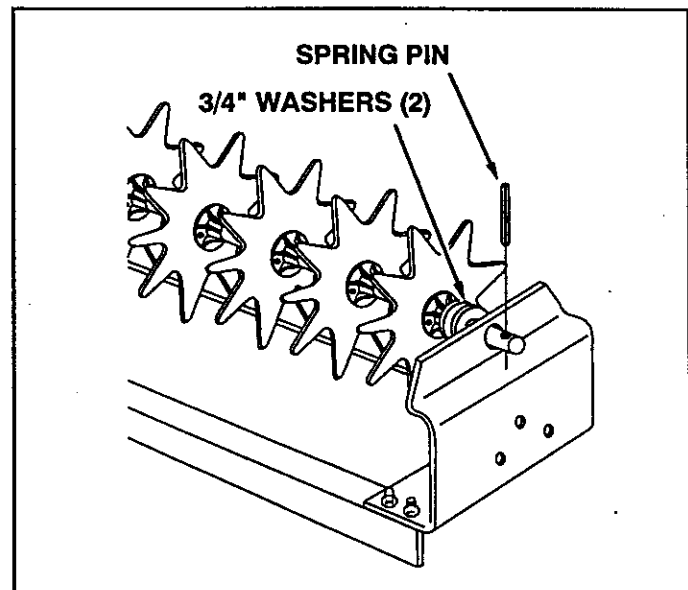

FIGURE 3
- Finally, assemble the last spike disk hub and two 3/4" washers onto the axle and push the end of the axle on through the second end plate. See figure 3.
- Drive a spring pin into the hole in the end of the axle, stopping before it hits the end plate. The spring pins secure the axle in the frame and also prevent the axle from rotating. See figure 3.